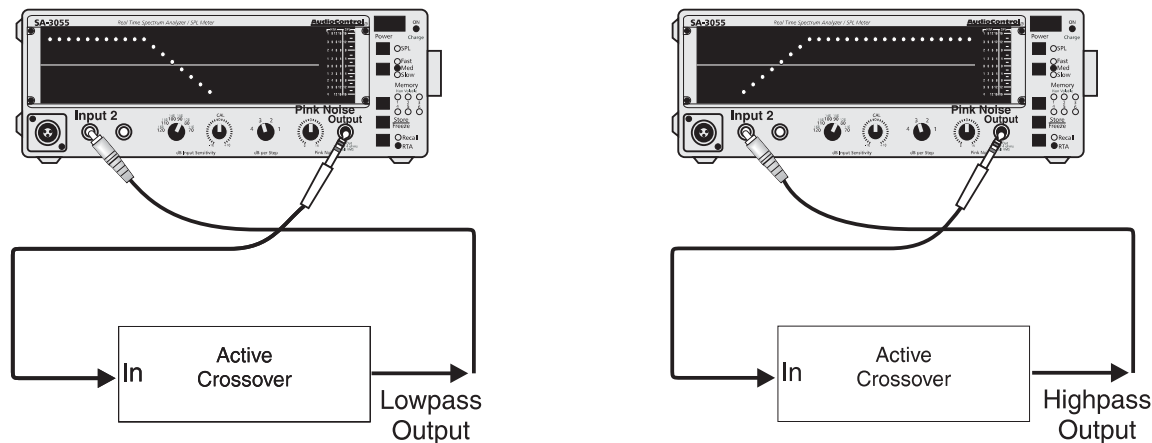

Figure 5.6. Checking an active crossover
1. Two load resistors, resistance equal to the impedance rating of the crossover. 1 Watt power rating is sufficient. You can also use the speakers that will be connected to the crossover as a load. If you're checking an active crossover, you don't need the load resistors. Use the setup shown in Figure 5.6.